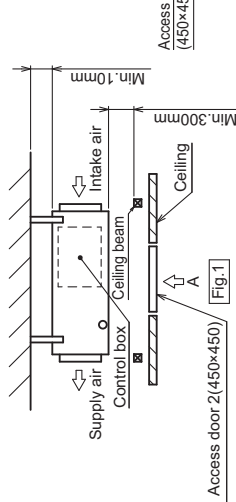

Fig. 1
- (1) When a space of 300mm or more is available below the unit between the unit and the ceiling. (Fig. 1)
(1) When a space of 300mm or more is available below the unit between the unit and the ceiling. (Fig.1)